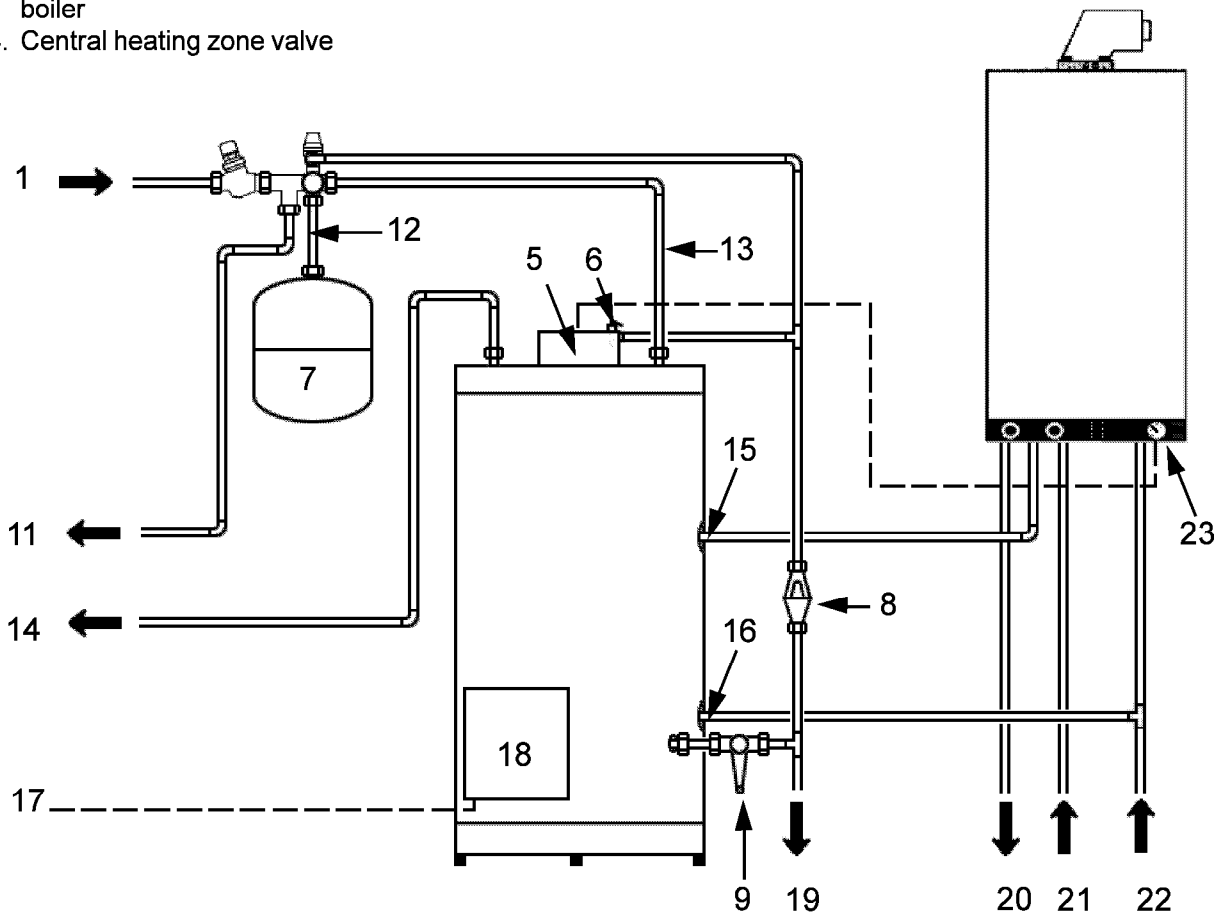

Fig. 3 - Cylinder connected to System Plus Boiler
- Manually open the temperature and pressure relief valve (6 Fig. 3) for a few seconds.